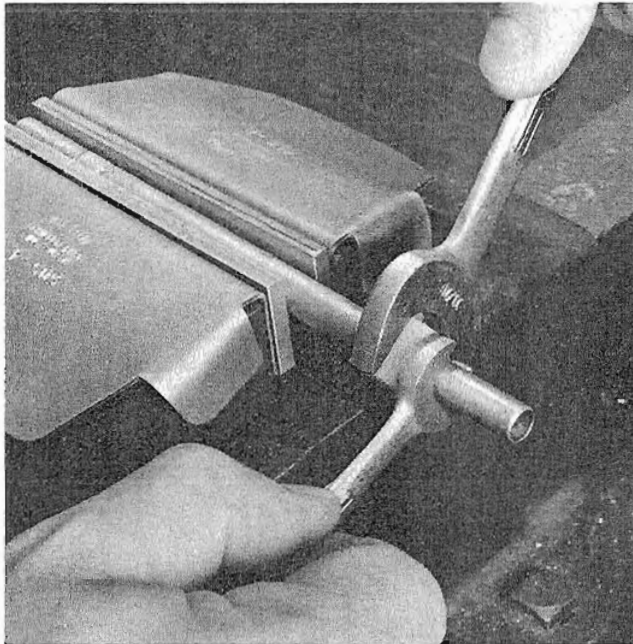
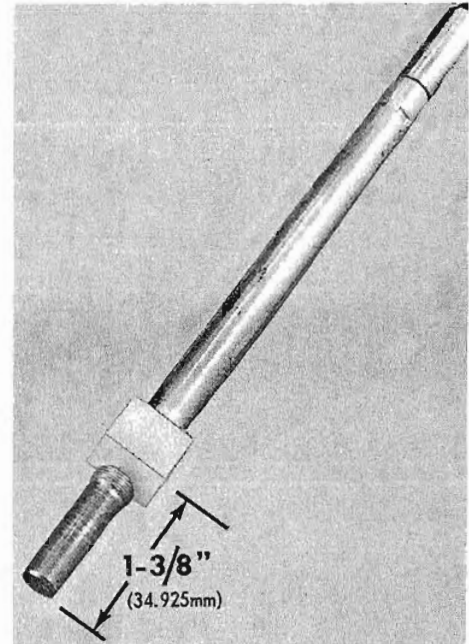

Figure 4. Threading Nylon Barrel on Cable
Figure 5. Distance from Cable End to Nylon Barrel
4. Pressure must be exerted against nylon barrel while threading nylon barrel on cable. (Figure 4) Distance from end of cable to center line of nylon barrel must measure exactly 1-3/8" (34.925 mm). (Figure 5)